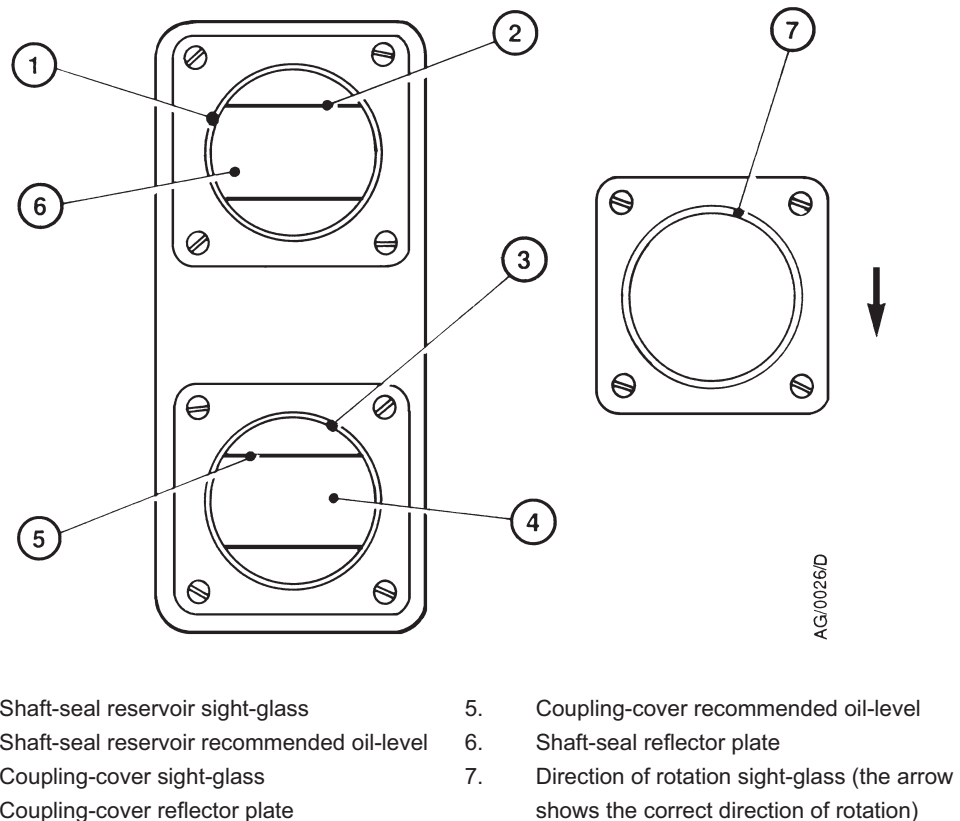

Figure 10 - Sight-glasses
We recommend that the coupling-cover oil-level is maintained at the recommended oil-level shown in Figure 10, item 5; if the oil-level is above or below the recommended oil-level, the performance of the pump may be affected. Do not allow the coupling-cover oil-level to fall below the bottom of the reflector plate (Figure 10, item 4) or the pump may be damaged.
2. Refer to Figure 10. Fill the coupling-cover with PFPE oil until the oil-level reaches the recommended oil-level (5) at the top of the reflector plate (4) in the coupling-cover sight-glass (3).
We recommend that you fill the shaft-seal reservoir so that the oil-level is at the recommended oil-level, shown in Figure 10, item 2. You can operate the pump as long as the oil-level is above the bottom of the reflector plate. Do not allow the shaft-seal oil-level to fall below the bottom of the reflector plate or the pump may be damaged. You must use the same oil you used to fill the coupling-cover.
2. Refer to Figure 10. Fill the shaft-seal reservoir with PFPE oil until the oil-level is at the recommended oil-level (2) at the top of the reflector plate (6).
It is possible for the three-phase electrical supply to the motor to be phased incorrectly. If the supply is phased incorrectly, the rotors will rotate slowly in the reverse direction or remain stationary. Look through the direction of rotation sight-glass in the coupling-cover (Figure 1, item 11) to check the direction of rotation of the motor-coupling. An enlarged view of the sight-glass is shown in Figure 10. The correct direction of rotation is indicated by an arrow. Check the direction of rotation as described below.
3. Watch the motor-coupling in the sight-glass (Figure 10, item 7) and switch on the QMB pump for two or three seconds.
4. Check that the direction of rotation of the coupling is the same as that indicated by the rotation arrow on the motor and shown in Figure 10.